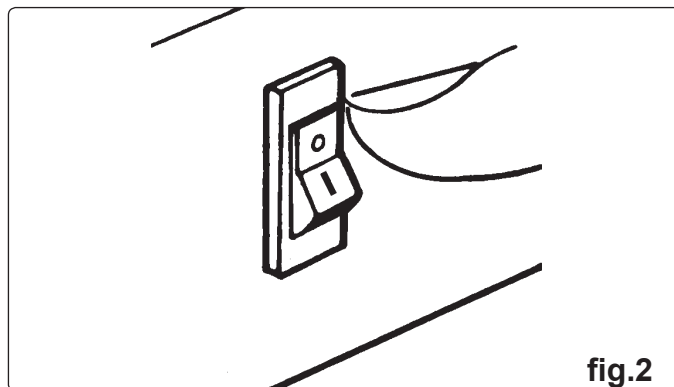

fig.2
4.1.1 Turn the fan switch to position "I" and check that the fan starts running (fig.2).